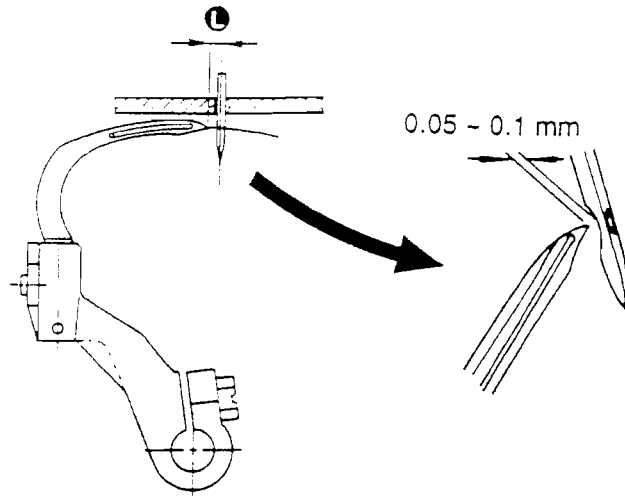

FIGURE 14
Looper position is set to ensure proper stitch forming. Set the position so that, when the looper is at the leftward most point of its travel, the point is $1/16$ inch (1.7mm) from the center of the needle (Figure 14, dim L).
2) Loper Clearance (Figure 14)